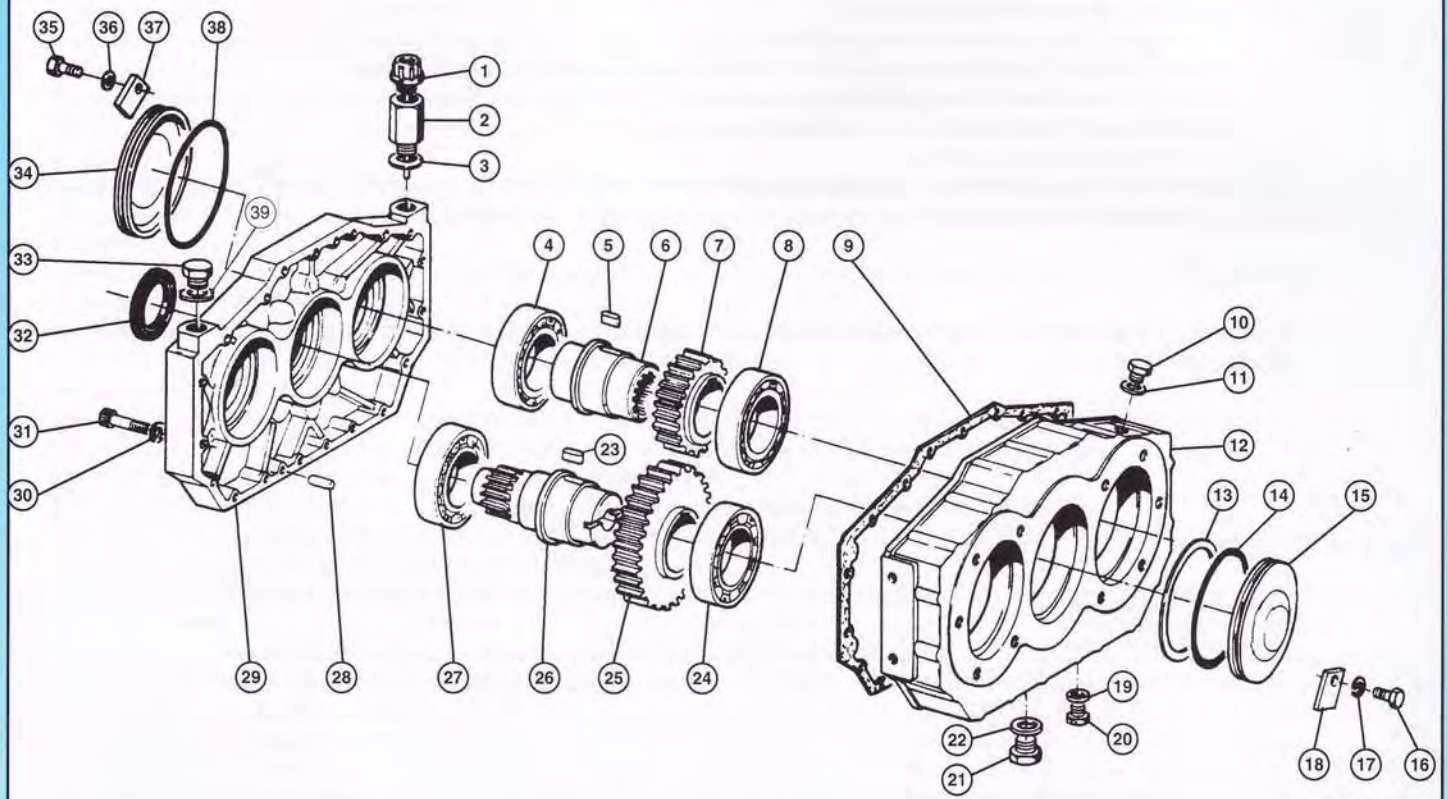

Fig. 2
3. Install Brake Release Tool in Drive Motor (Fig 2)